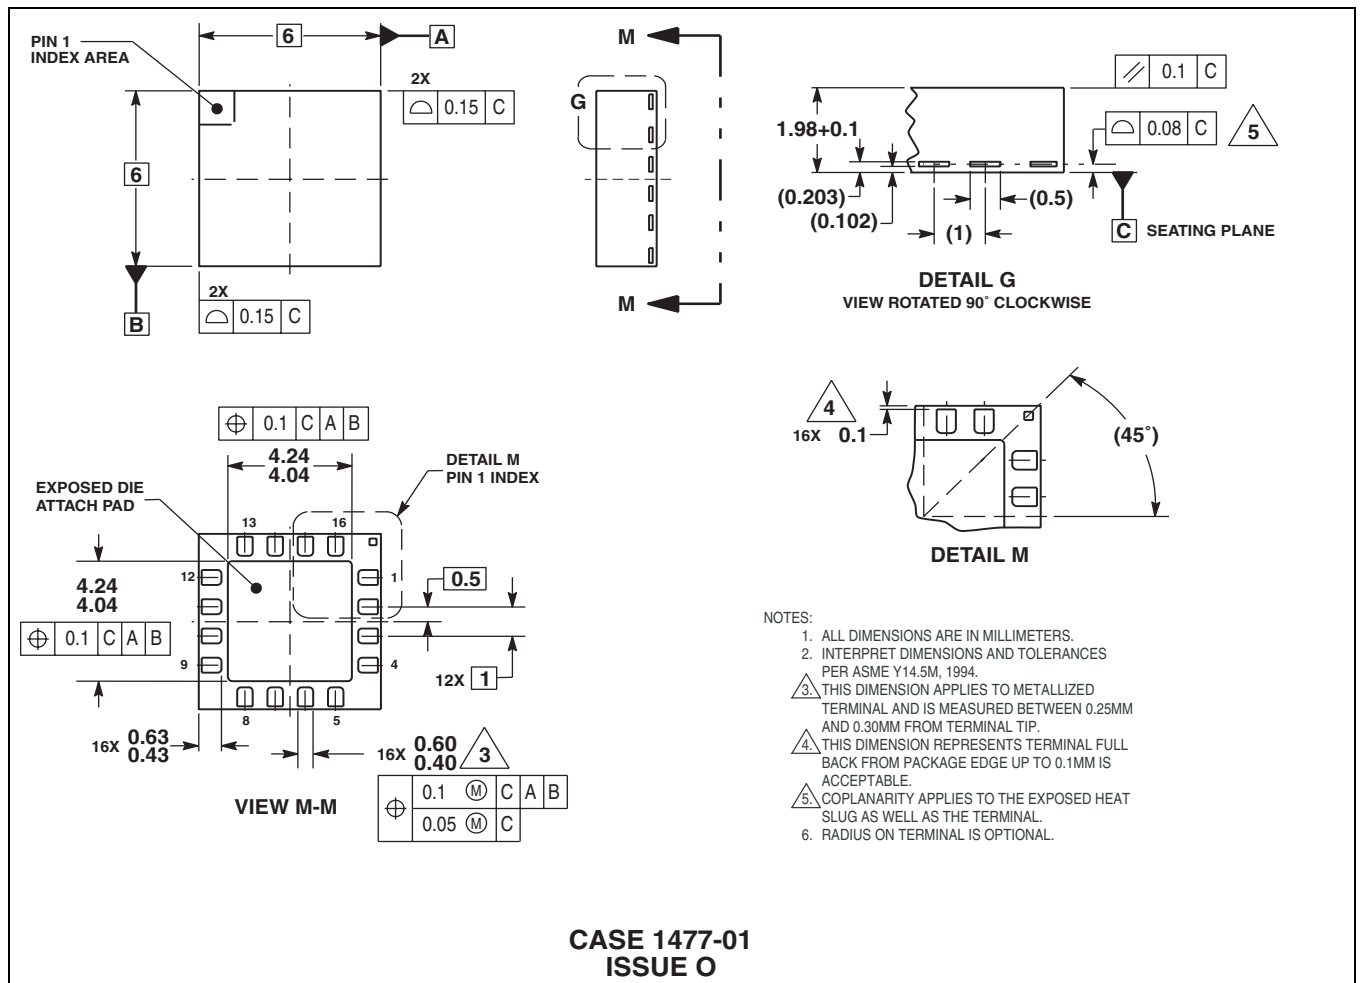

**Figure 5. Recommend PCB Layout for Interfacing Accelerometer to Microcontroller**
4. Place a ground plane beneath the accelerometer to reduce noise, the ground plane should be attached to all of the open ended terminals shown in Figure 5.